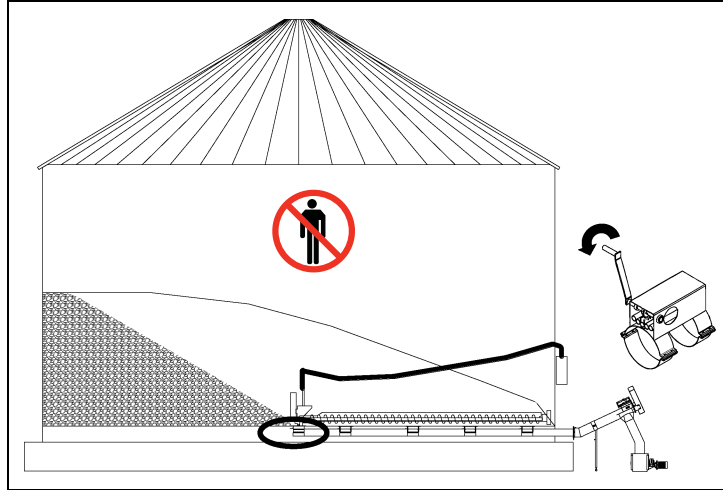

Figure 6H
8. Exit bin, close ALL doors, FULLY open centre well. (See Figure 6H.)